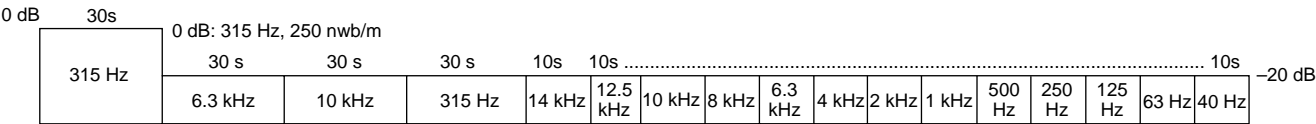

Fig. 6-1 Constants of the Test Tape STD-331E
- STD-331E : Playback adjustment (See Fig. 6-1)